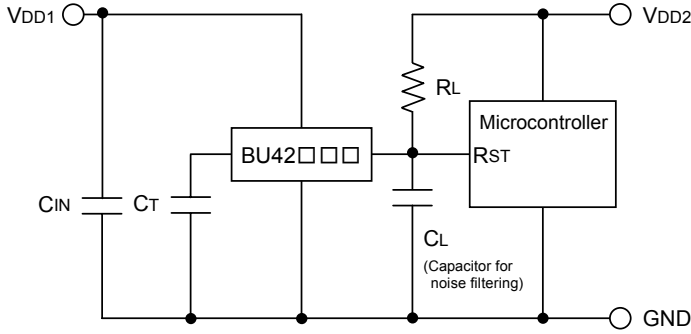

Fig.18 Open collector Output type
CASE1: The power supply of the microcontroller (Vdd2) differs from the power supply of the reset detection (Vdd1). Use the Open Drain Output Type (BU42□□G/FVE) attached a load resistance (RL) between the output and Vdd2. (As shown Figure 18)